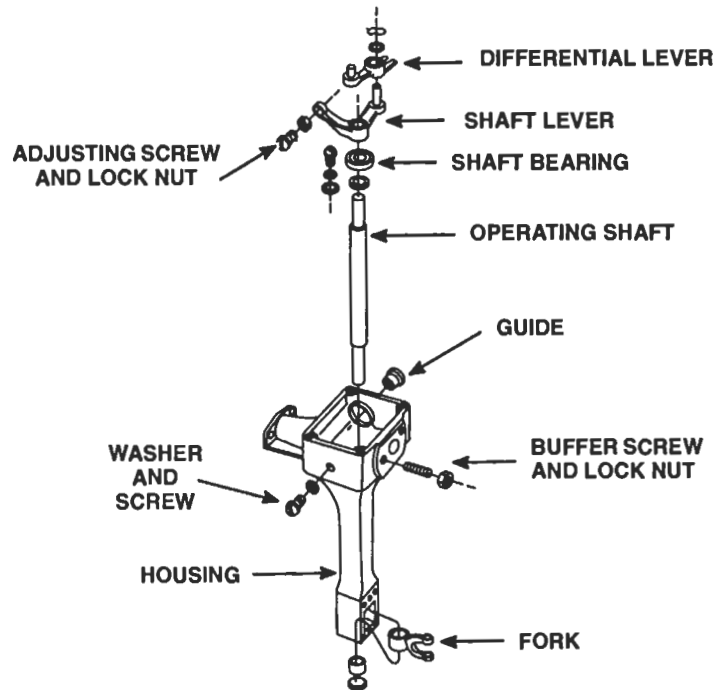

Figure 5. Governor Housing and Components
- a. Place the control housing in the soft jaws of a vise (Figure 5.)